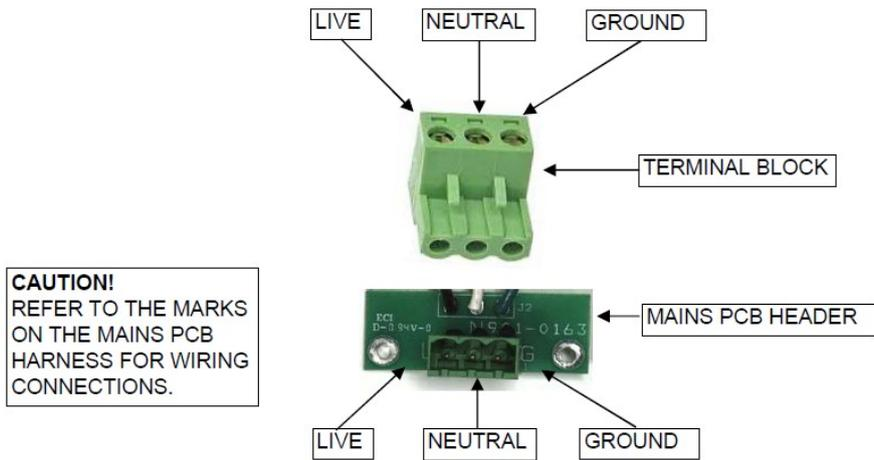

Figure 2: AC Power Cable Wiring
4. Unplug the Terminal Block Plug from the Header, Figure 2.